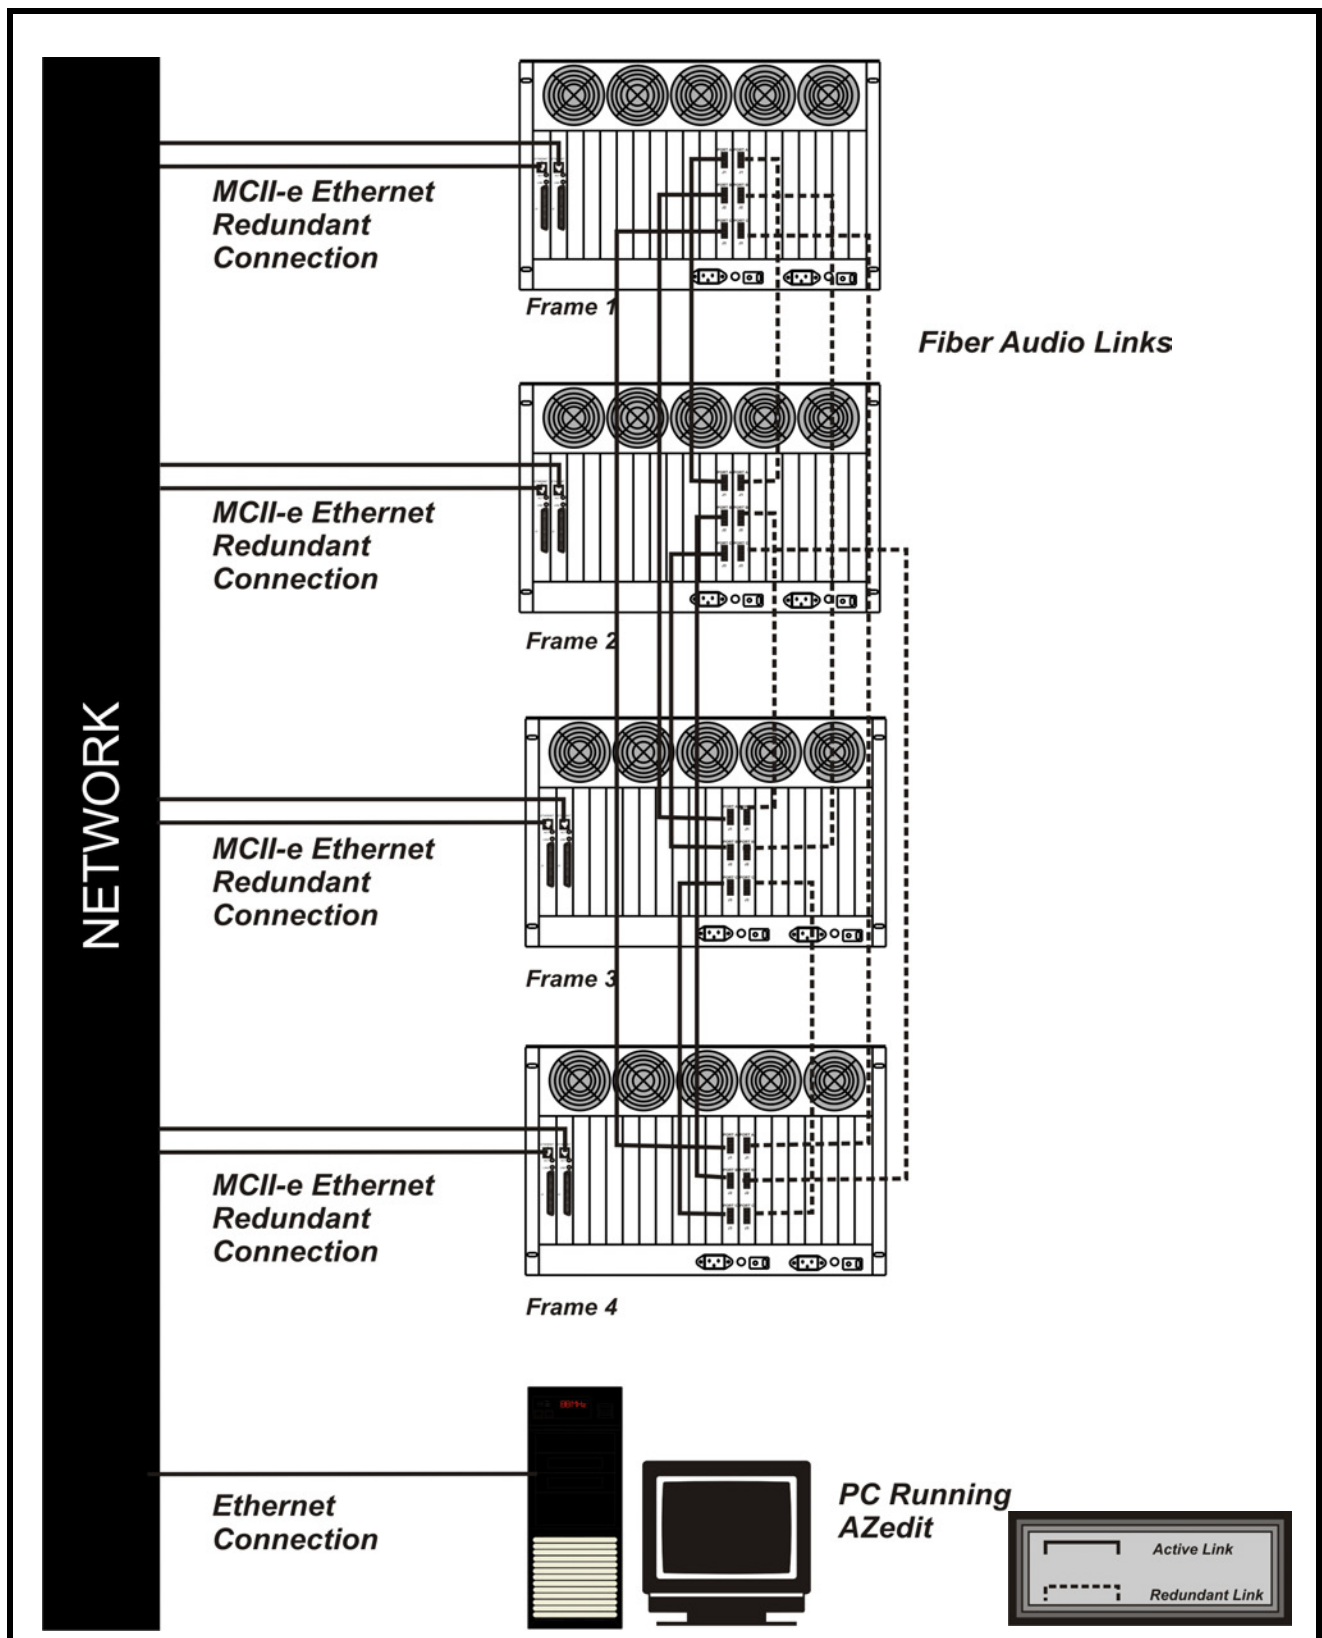
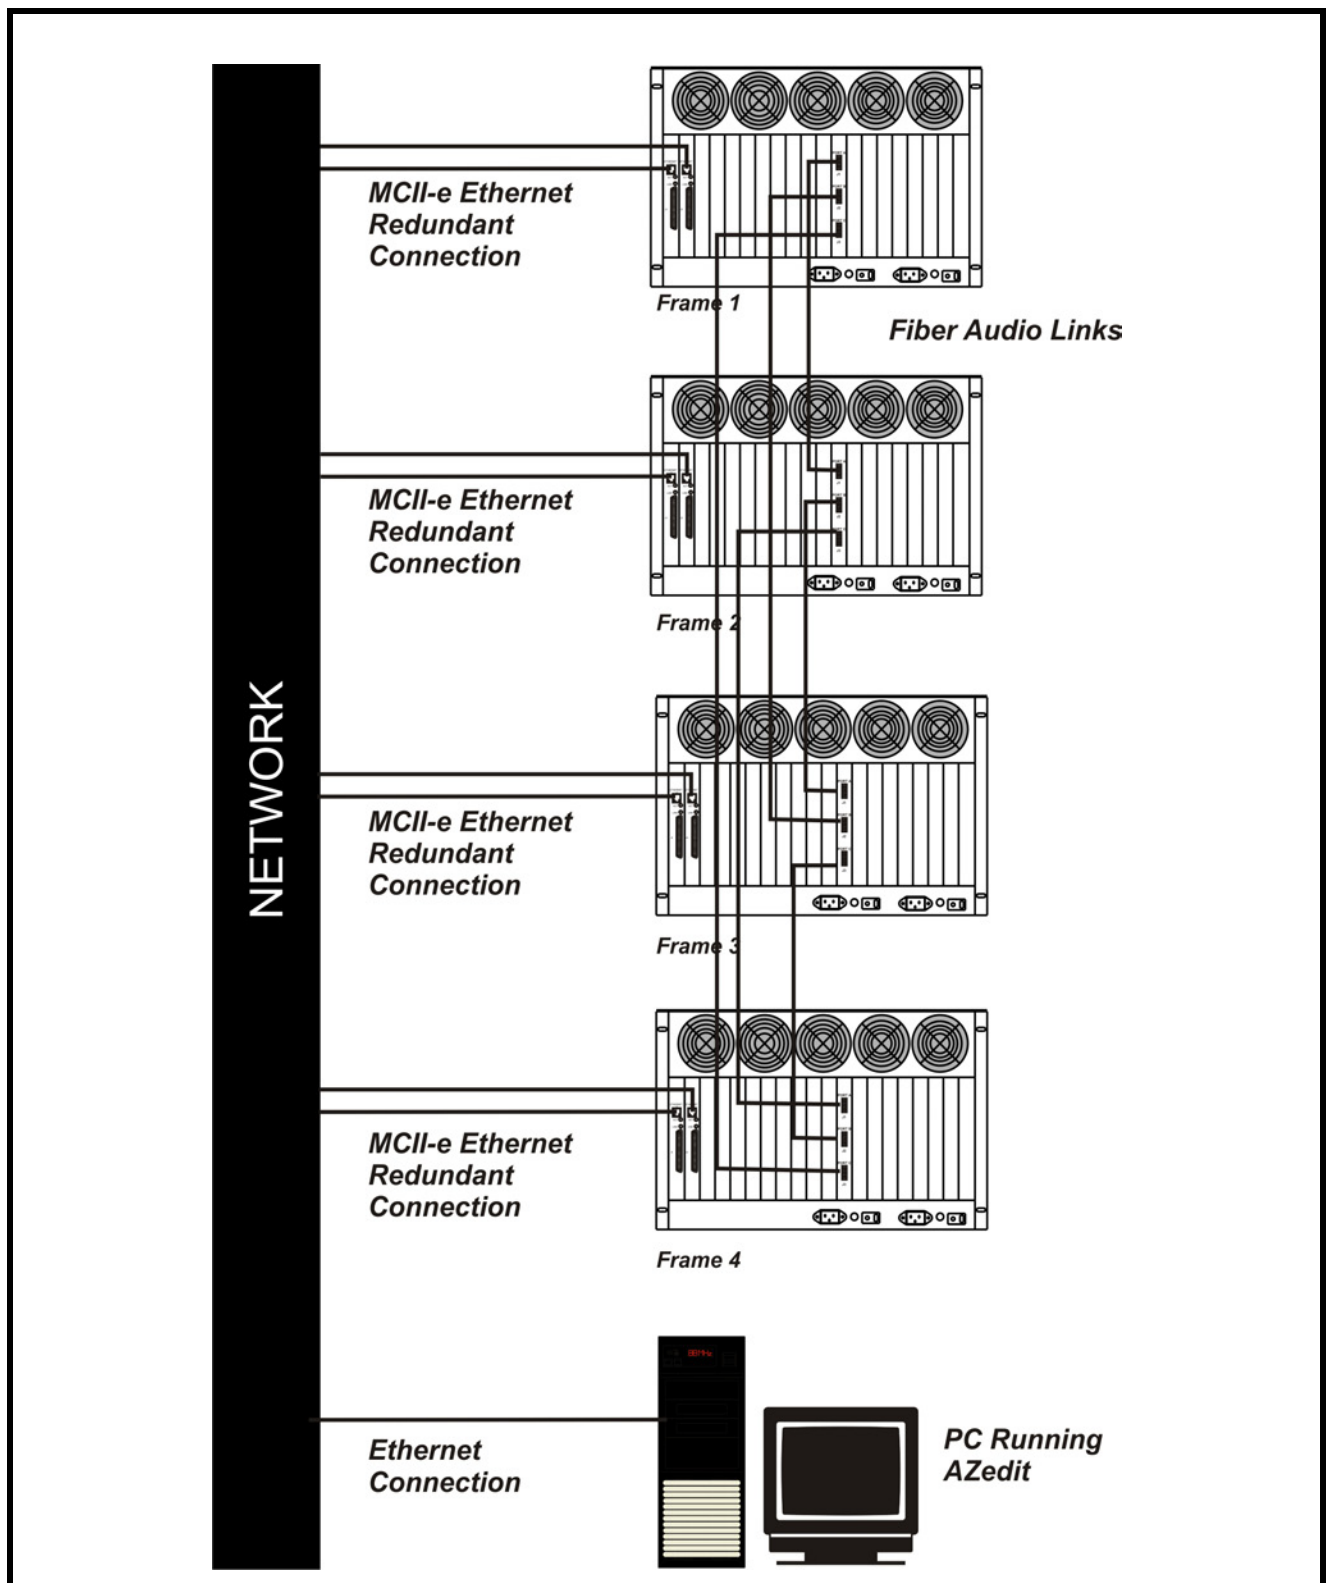

FIGURE 29. 4 Frame System with Full Redundancy, including failover Master Controller
FIGURE 31. 4 Frame System with No Redundancy, including failover Master Controller
Unlike the DBX card, audio and communications (called *control*¹) between frames is separated between the TBX-Tribus card and the MCII-e Master Controller Card. Communication between frames using TBX-Tribus occurs using the MCII-e Master Controller over Ethernet. Audio is passed between frames using the TBX-Tribus card fiber connection (see Figure 29 to Figure 31).
In **Full Redundancy** systems, there are two (2) links, shown in Figure 29, between each frame, so losing either one does not affect audio.
In a **Non-Redundancy** systems, shown in Figure 31, there is only one link between frames, so if the fiber link goes down, audio communications between the frames is lost.